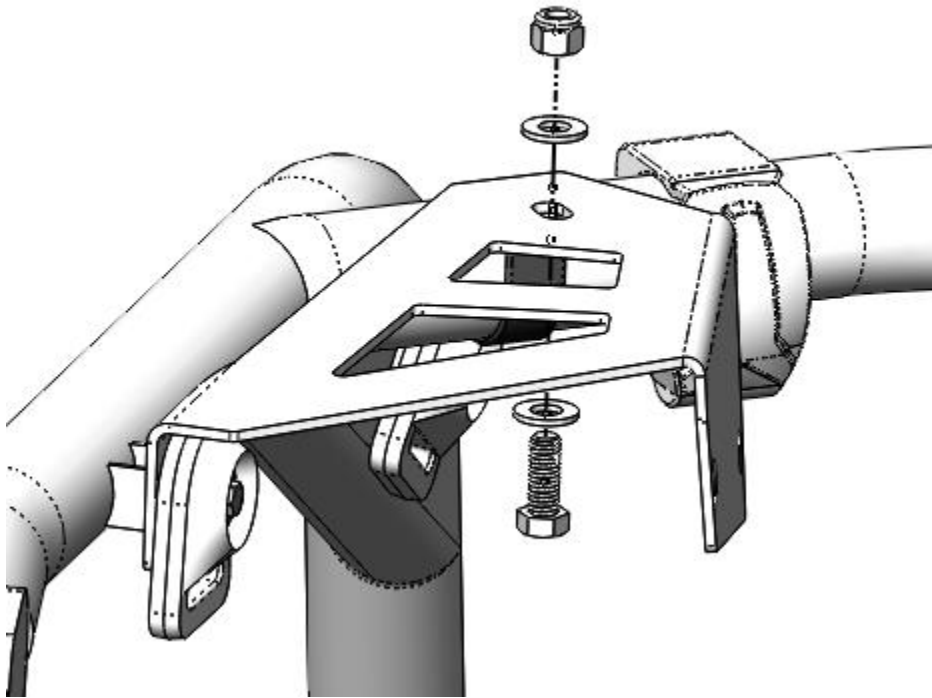

Figure 5: Hardware for mounting the loop clamps to the brackets.
4. Use the supplied 3/8"-16 x 1" bolts, washers, and nylock nuts to secure the loop clamps to the mounting brackets. Loosely tighten the bolts to allow for adjustment of the *Audio Mini* placement. See Figure 5.